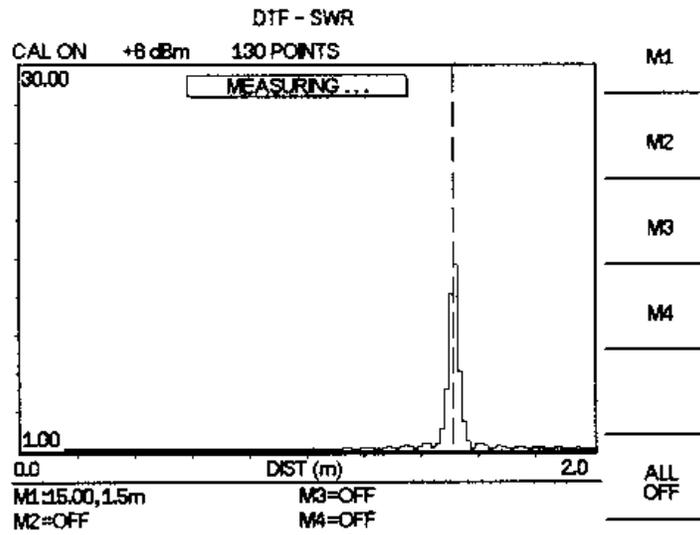

Figure 4-13. DTF - SWR Measurement Results (cable length)
**Step 23.** Press the **BACK** soft key or the **ESCAPE** key to return to the previous menu. Figures 4-13 and 4-14 show cable length displays in SWR and Return Loss modes.